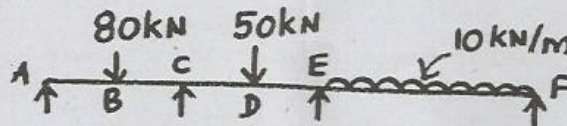

Fig. Q. 12(b)
- (b) For the beam given in fig. Q. 12(b), find the moment and reaction at the supports. Draw SFD and BMD. Take AB = 2 m; BC = 3 m; CD = 4 m, DE = 3 m, EF = 8 m.